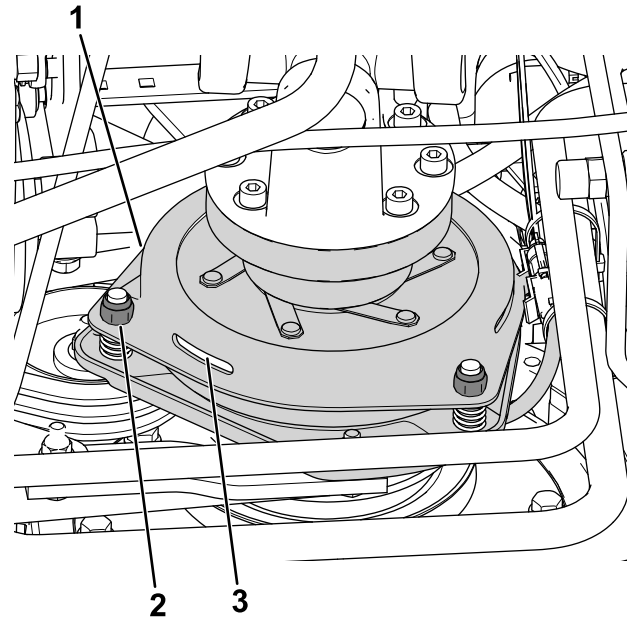

Figure 80
3. Adjust the air gap so that a 0.3 mm (0.012 inch) feeler gauge slides in between the clutch lining and friction plate with light pressure (Figure 80).
**Note:** You can decrease the gap by turning the adjusting nuts clockwise (Figure 80). The maximum service gap is 0.6 mm (0.024 inch). Adjust all 3 air gaps to 0.4 mm (0.012 inches).